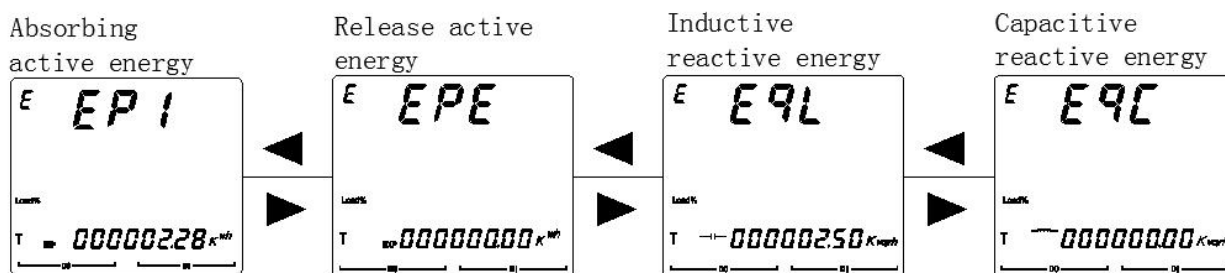

Figure 21
5.2.6 View the power parameters of the AMC72L/96L as shown in Figure 21.